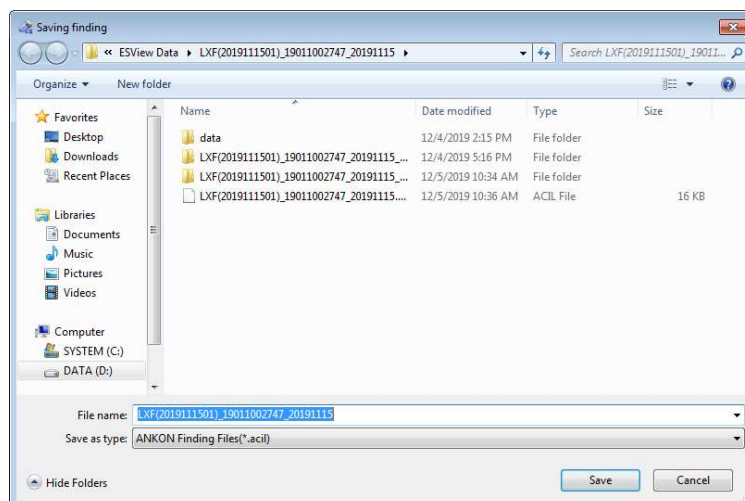

Figure 4-59: Save Finding Interface
8. In the main software interface, select “File” “Saving finding” to access the save finding interface (Figure 4-59). The finding file saves image markings, comments, and other textual information. Subsequently, the user can select “File” “Open finding” in the menu to load video with all the findings again.